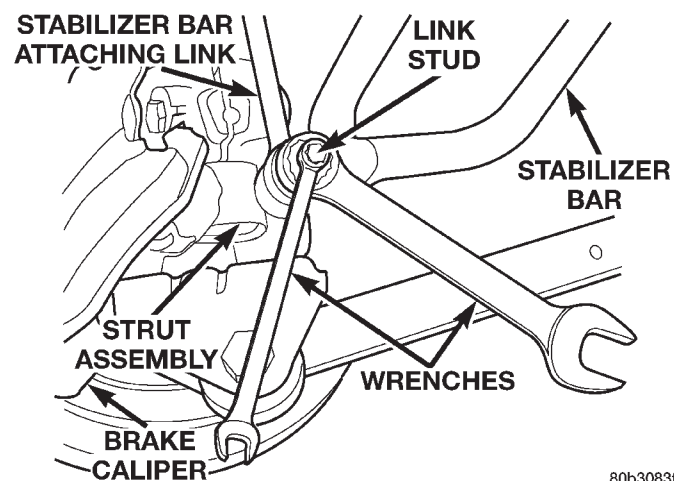

Fig. 33 Link Attachment To Stabilizer Bar
(1) Raise vehicle on jack stands or centered on a frame contact type hoist. See Hoisting in the Lubrication and Maintenance section of this manual for the required lifting procedure to be used for this vehicle.
(2) Install a thin wrench on the hex of the attaching link stud to keep the stud from turning in the link. Next, remove the nut from the stabilizer bar to strut assembly attaching link stud at the stabilizer bar (Fig. 33). Remove the link from the stabilizer bar. Repeat this procedure on the other side of the vehicle for the other attaching link.
(9) Install both stabilizer bar attaching links onto stabilizer bar (Fig. 33). Install both stabilizer link to stabilizer bar attaching nuts (Fig. 33). Tighten the stabilizer link to stabilizer bar attaching nuts to a torque of 95 N·m (70 ft. lbs.) using a crow foot wrench and torque wrench in place of the wrench on the attaching nut. **Be sure to use a wrench to hold the link stud in place while tightening each attaching nut.**
(10) Lower vehicle to the ground.